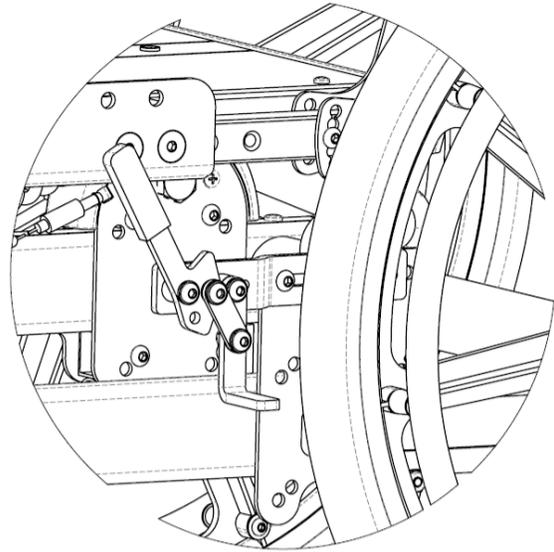

Figure 15.39: *Pull to Lock Wheel Locks*
2. To engage the pull to lock wheel lock (see Figure 15.39), pull the lever towards the wheel until it locks into place.